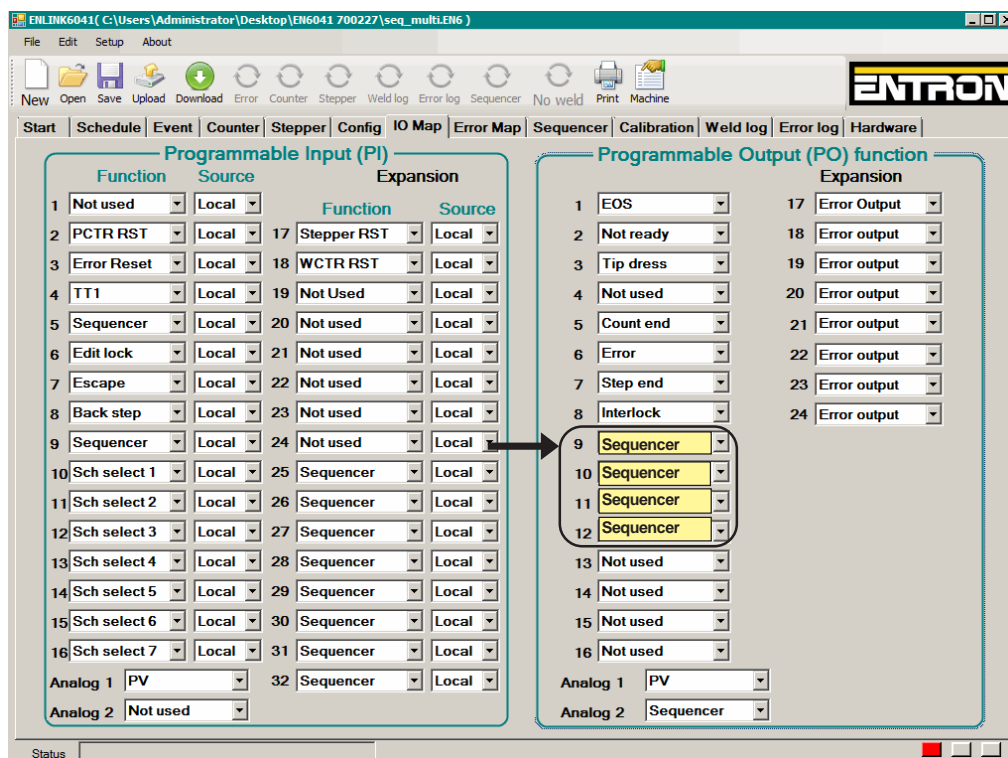

Figure 9-31. Input/Output Map page
C. Map OUTPUTS PO9 through PO12 to Sequencer on Input/Output Map page (Figure 9-31).